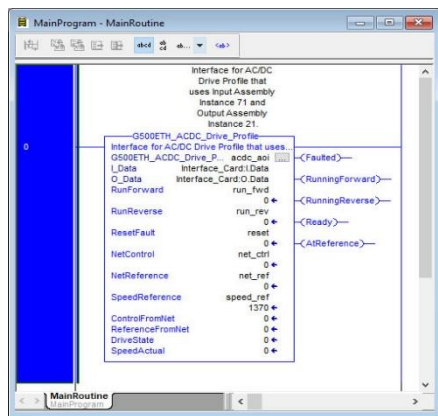

Figure 43: Configure AC/DC Drive Profile AOI
- 10) Edit the add-on instruction according to Figure 43.